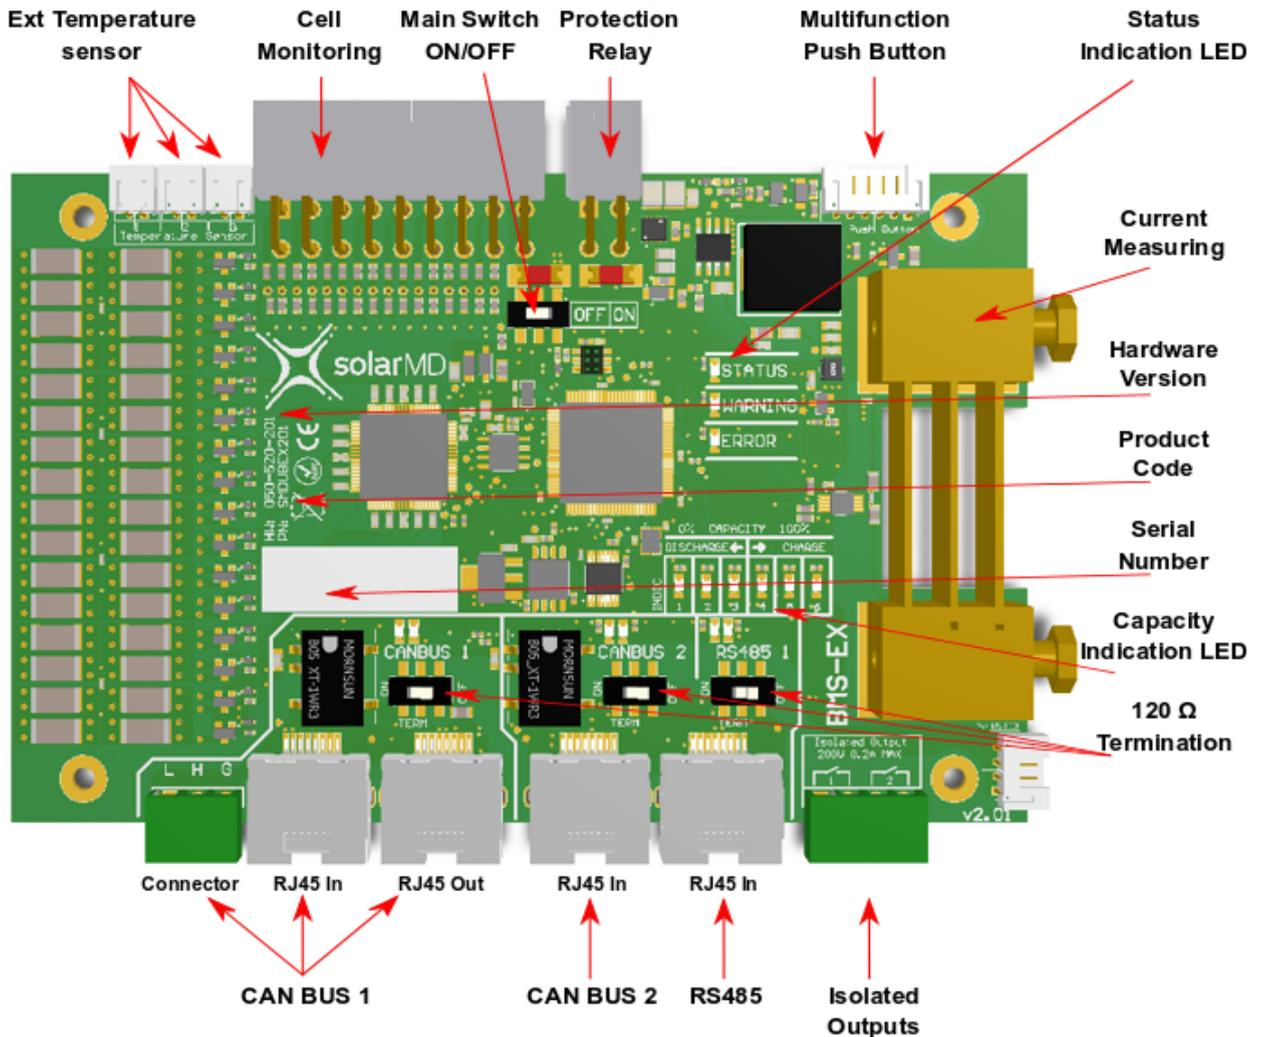

Figure 4: BMS board component location
Step 1. Before connecting anything be sure that battery is off and the ON/OFF switch (fig4 pos 3) is in the OFF position.
Step 3. Turn BMS board ON/OFF switch to the ON position (figure 4 pos 3)
Step 4. Connect Multi-purpose button if not connected to the BMS board connector see (figure 4 pos 5)